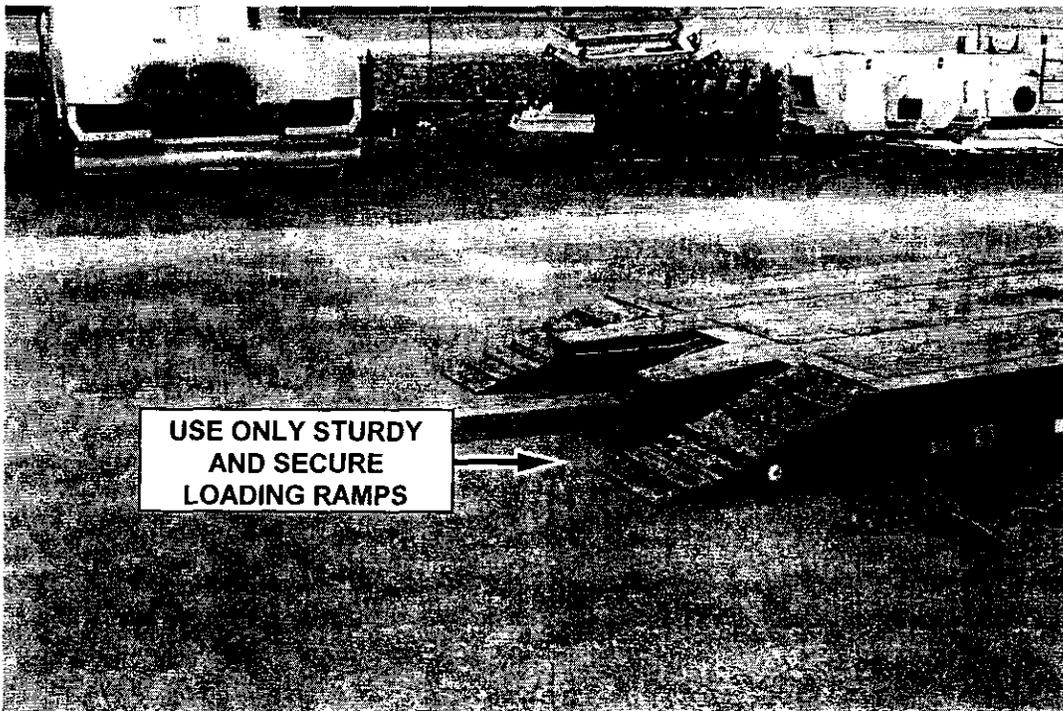

FIGURE 66
5. Loading ramps should be equipped with a non-skid surface (figure 66).